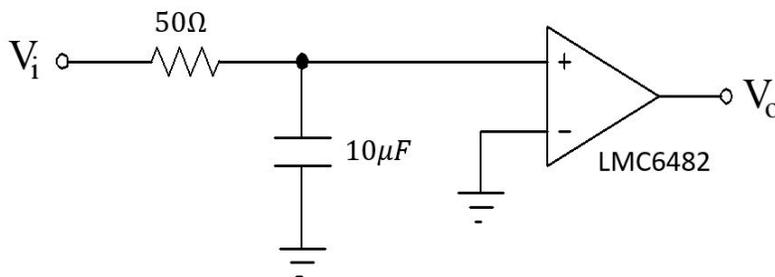

Figure PL2.1
- (a) Generate the netlist for the circuit of Fig. PL2.1. Then use SPICE to determine the voltage transfer characteristic (VTC) V_o versus V_i for $V_i = (-10\text{mV to } 10\text{mV in } 10\mu\text{V steps})$. Again, for the LMC6482 op amp, use the SPICE model given on-line on the course website in the file 'lmc6482.mod', and bias it with $\pm 5\text{ V}$ supplies. Note the warning in the model file and make sure to set g_{min} in the `.options` line of your netlist.
- (e) Now replace the $50\ \Omega$ resistor in Fig. PL2.1 with a $10\ \text{G}\Omega$ resistor and determine the resultant effective value of offset voltage using SPICE. From this value, determine the input bias current into the positive terminal of the op amp assumed by the 'lmc6482.mod' model.
- (f) What percent error in offset voltage estimation (mV) does the circuit of Fig. PL2.1 incur with the $50\ \Omega$ resistor if one neglects bias current? (Use the value of bias current determined in part (e).)